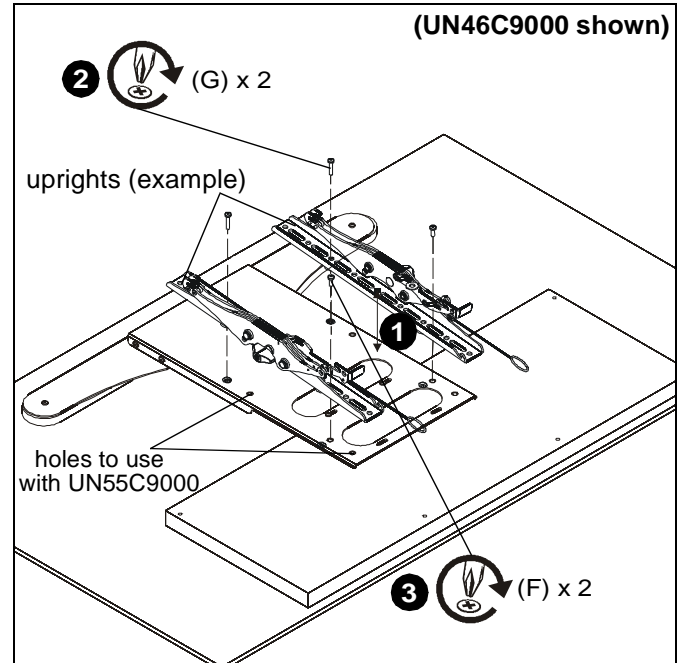

Figure 4
1. Align uprights with mounting holes on lower adapter bracket making sure the center of display coincides with the diamond shapes on the uprights. (See Figure 4)
2. Install two M6x20mm Phillips pan machine screws (G) into the holes on the mounting uprights that coincide with the upper two holes on lower adapter bracket (B). (See Figure 4)
3. Install two M6x10mm Phillips pan machine screws (F) into the holes on the mounting uprights that coincide with the lower two holes on lower adapter bracket. (See Figure 4)